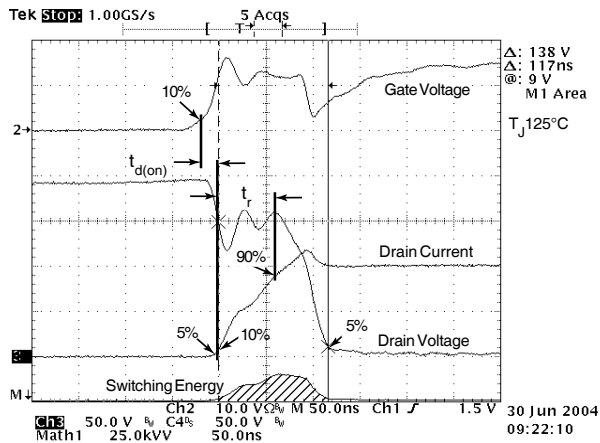

Figure 18, Turn-on Switching Waveforms and Definitions
① Repetitive Rating: Pulse width limited by maximum junction temperature
② Pulse Test: Pulse width < 380 μs , Duty Cycle < 2%
③ See MIL-STD-750 Method 3471
④ Starting $T_J = +25^\circ C$, $L = 0.77mH$, $R_G = 25\Omega$, Peak $I_L = 88A$
⑤ dv/dt numbers reflect the limitations of the test circuit rather than the device itself. $I_S \leq -I_D 88A$ $di/dt \leq 700A/\mu s$ $V_R \leq 300V$ $T_J \leq 150^\circ C$
⑥ E_{on} includes diode reverse recovery. See figures 18, 20.